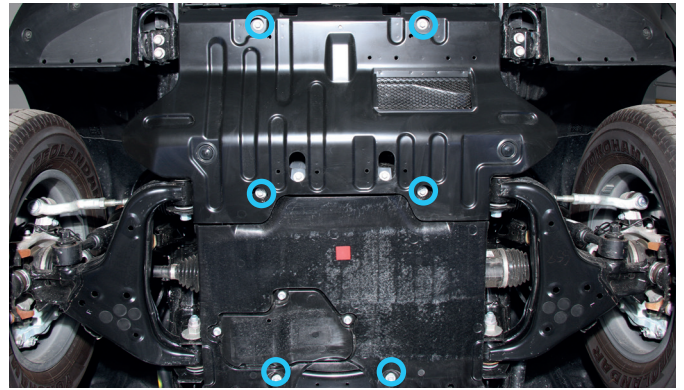

Fig. 2
2. Remove factory skid plates as shown in fig.2.